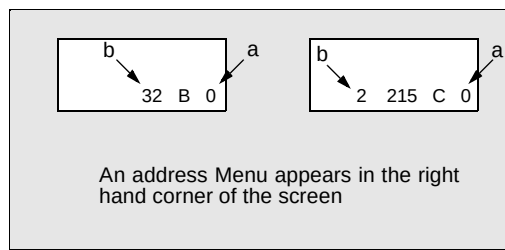

Figure 13. Serviceman Mode Menu Adjustments.
Note: Only the applicable settings for the Receiver serviced will be available (See **a** in Fig. 13).
1. Press **Channel Up/Down** on the **Remote Control** to select one of the available Service Adjustments (**a** in Fig. 13).
Note: Write Down the original value set (**b** in Fig. 13) for each address before modifying anything. It is easy to erroneously adjust the wrong item.
2. Press **Volume Up/Down** on the **Remote Control** to adjust the level of the selected Service Adjustment (**b** in Fig. 13).
1. Press Channel Up/Down on the Remote Control to select one of the available Service Adjustments (See **a** in Fig. 13).
2. Press Volume Up/Down on the Remote Control to adjust the level of the selected Service Adjustment (See **b** in Fig. 13).